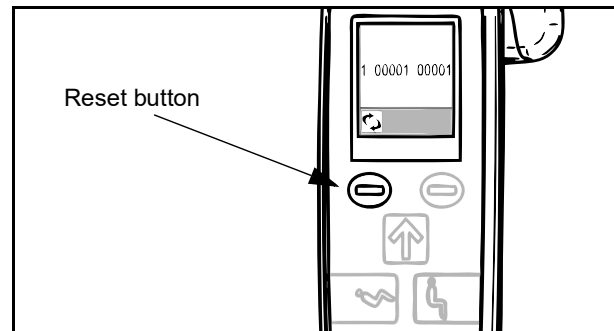

Fig. 3
3. The usage counter screen will display two columns of digits (see Fig. 3). The digits displayed represent the accumulated time (in tenth of hour) of the mast motor's powered movement.